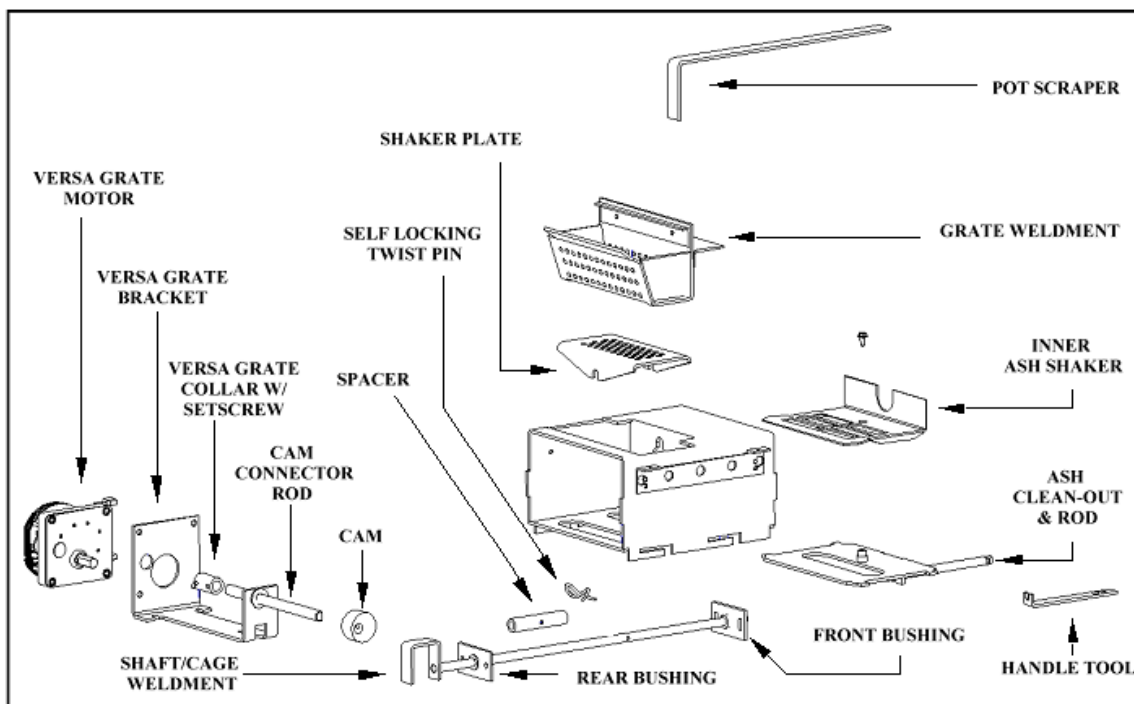
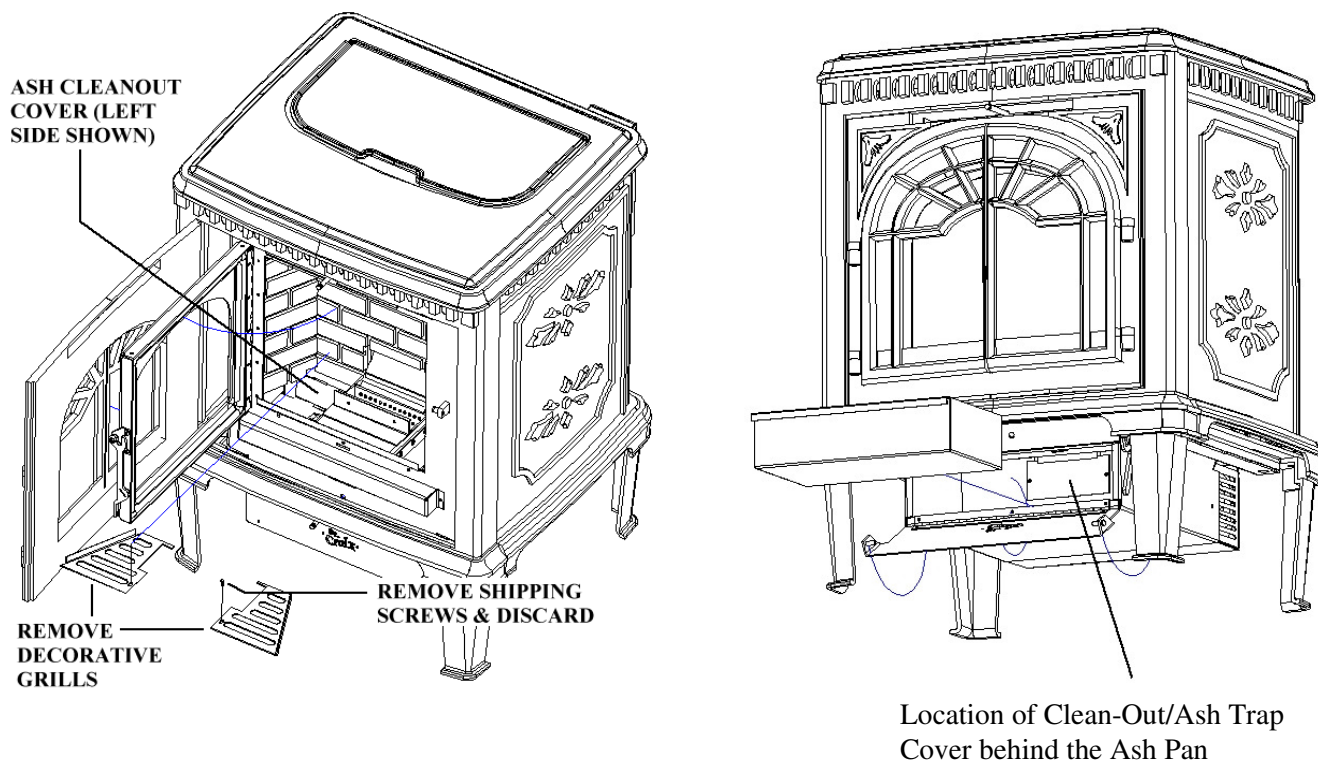
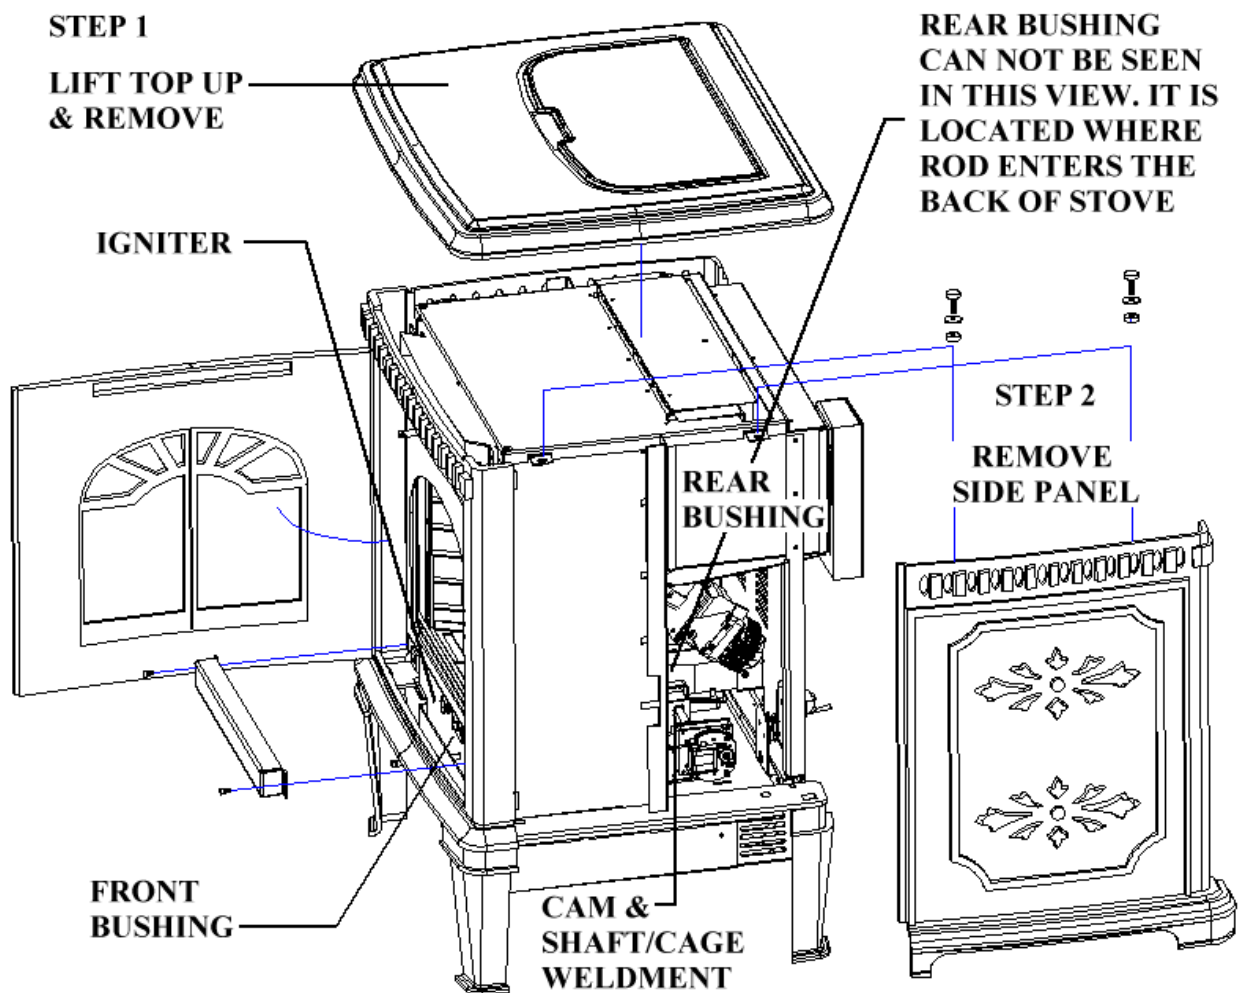

Figure 6
Figure 8
Figure 11
The Versa Grate System (see Figure 6 below). The benefit of this feature is that the stove can operate for longer periods of time, with most
First, let's become familiar with the burn system in a St. Croix Pellet stove. Remember, cleaning frequency may change dramatically from one fuel to another. Pellets with high ash content or that have increased amounts of impurities or high moisture content. Every St. Croix Pellet stove model will have the same system as shown in figure 6 below. There is a 2-piece burnpot. The top Part is called the **"Grate Weldment"**. This sits on top of the **"Shaker Plate"**. This in turn sits on top of the **"Shaft/Cage Weldment"** and is held in place with the **"Spacer"** & **"Self Locking Twist pin"**. The Shaft/Cage weldment is moved towards the front of the stove and then towards the back of the stove by the **"Cam"** that is connected to the **"Versa Grate Motor"**. This motion is constant, while the stove is in operation. The only parts that may need to be removed for cleaning purposes during the Daily or Periodic Maintenance are the **"Grate weldment"** and the **"Shaker Plate"**. This is to check the holes in the burnpot system to see if they are plugged.
1. Check Grate Weldment and Shaker Plate (See figure 6) to determine if holes are plugged. Clean as needed. With proper precautions the grate may be partially cleaned while the stove is hot. Follow these steps:
2. Remove ash buildup under the grate bottom daily or as frequently as needed. Clean the ashes out from under the burn pot by pulling the Ash Cleanout Rod in and out several times (see Fig. 6) Use the Rod Pull Tool with the Ash Cleanout Rod. This tool is hanging on a screw on the back of the stove; this provides a convenient location to keep the tool in reach and prevent it from getting lost.
2. The Hastings has 3 Ash Trap cleanouts. 2 are located below the rear brick panel. Remove covers and clean regularly. (See Figure 8 below) Be sure to clean both sides. Use scraper shown in figure 6 & 7 to scrape ash into ash pan. Use a vacuum (cold stove only) to thoroughly clean these areas. The other Clean-out is located behind the Ash Pan. (See figure 8 below)
3. Clean burn grate holes at least weekly. Remove the burn grate and use a small metal object to clean out plugged holes. (See fig. 6 on page 12.)
1. **Spring Shutdown.** After the last burn in the spring, cool the stove. Remove all pellets from the hopper and the auger. Thoroughly clean the burn grate, burn grate box, ash pan and ash traps behind the ash pan. (To locate the ash traps see Figure 8 on page 14)
- The Versa Grate System needs to be lubricated once a year with some High Temp Anti Seize to prevent the parts from “squealing”. (See figure 6 on page 12 as well). Add some Anti-Seize to the Cam and Rod at both bushings. To gain access to the Versa Grate System in the Hastings remove the cast iron top and side panel (see Fig 11). To locate the Rear Bushing assembly, follow the rod from the Shaft/Cage Weldment towards the front of the stove. The front bushing is located below the igniter in the front of the stove. Remove the ash lip cover as shown in figure 11.